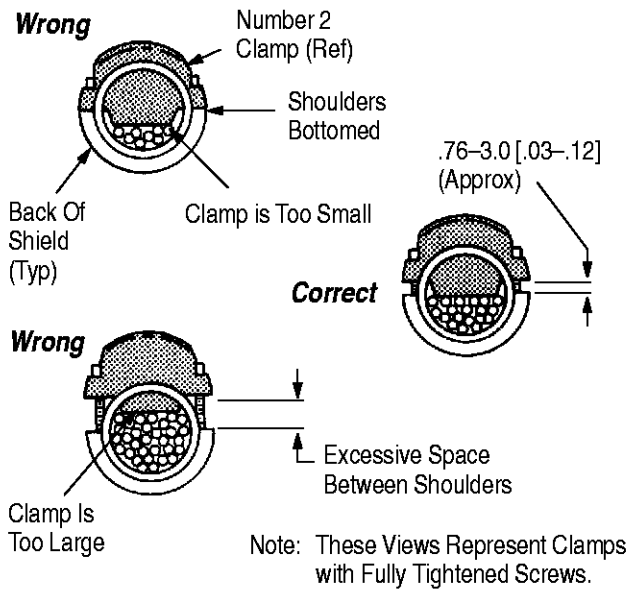

Figure 2
5. Make sure the wire bundle is properly secured. If clamp has bottomed on shoulder, or if clamp has NOT entered slot far enough, remove it and select another clamp (See Figure 2). After proper clamp has been installed, discard remaining clamp(s).